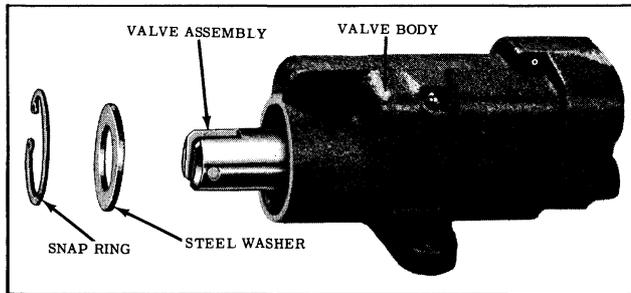

Fig. 5-38 Installing Valve Assembly
4. Slide valve assembly into valve body, then place steel washer over link (chamfered side down). (See Fig. 5-38)